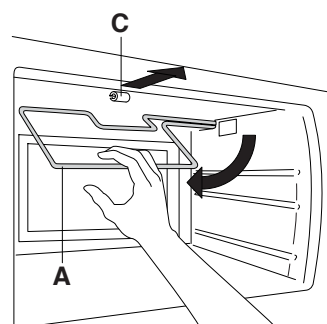

fig. 11
To make the inside ceiling of the oven easier to clean, the top heating element (A) needs to be lowered by pulling the heating element hook towards the door (C) (see Figures 11 and 12).